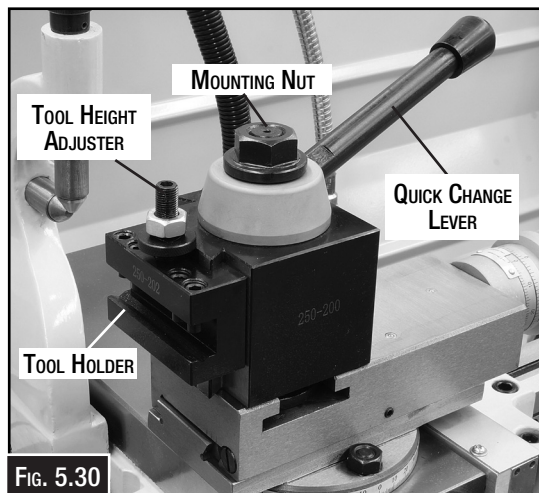

FIG. 5.30
2. Move the quick-change lever (Fig. 5.30) to recess the lock piston and provide an unobstructed slot for the tool holder to slide down into.